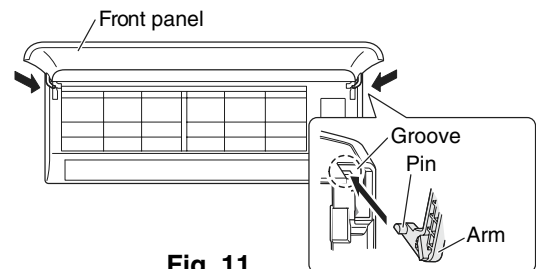

Fig. 11
- (1) Insert the bottom of the grille into the frame.
- (2) While aligning both edges of the grille with the frame, move the grille horizontally and insert the top and bottom into the frame.
- (3) Press the grille firmly with your hand to ensure no gap exists between the frame and grille.
- (4) Tighten the 2 screws and close the screw covers.
- (5) Grasp the sections near the front panel arms on both sides, hold the front panel so that it is nearly horizontal, bring the arm shafts into contact with the top of the grooves on the right and left sides of the air conditioner, and then push firmly until the arm shafts click into place. (Fig. 11)